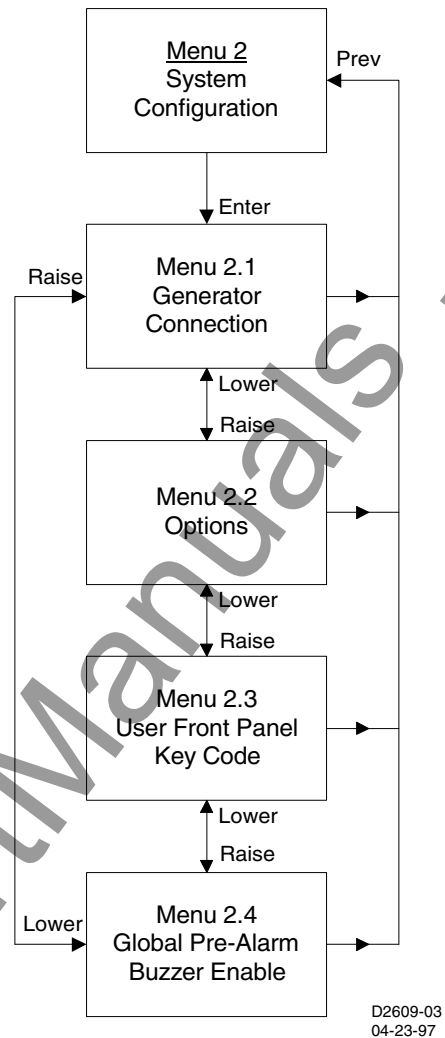

Figure 3-5. Menu 2
*Menu 2.* Menu 2 system configuration. Pressing **Select/Enter** from this menu (Figure 3-5) begins the 2.x level of menus. Pressing **Raise/Scroll** and **Lower/Scroll** from this menu scrolls through the 1.x levels of menus.